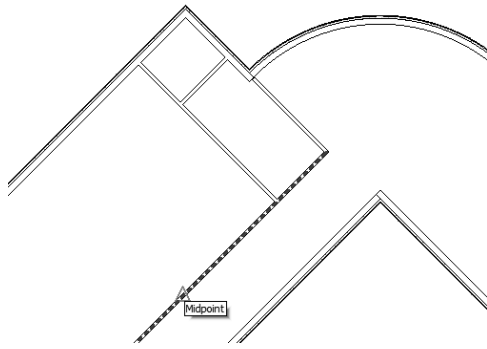

Figure 3-70 Starting the fifth interior wall from the midpoint of the first interior wall
10. To create the next wall, bring the cursor close to the midpoint of the first interior wall until the midpoint object snap appears, as shown in Figure 3-70. Click on the drawing to start the wall.